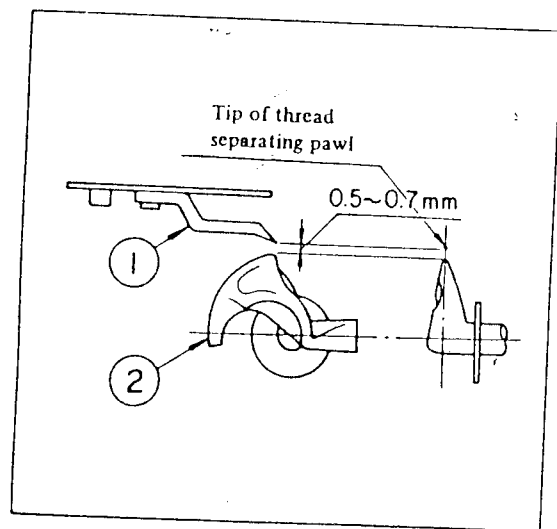

Fig. 7
### Adjusting the height of the thread separating pawl (Fig.7)
If the height of the thread separating pawl is wrong, bend the thread separating pawl ① and the looper ② comes to the dimension as shown in Fig. 7